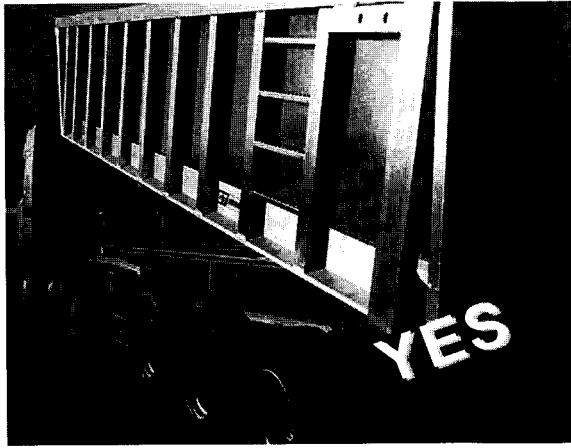

Fig. 13-2
4. The tractor unit and steering wheels must be aligned with the longitudinal axis of the semi-trailer (fig. 13-1). No dumping is allowed if the tractor unit is not in line (fig. 13-2).